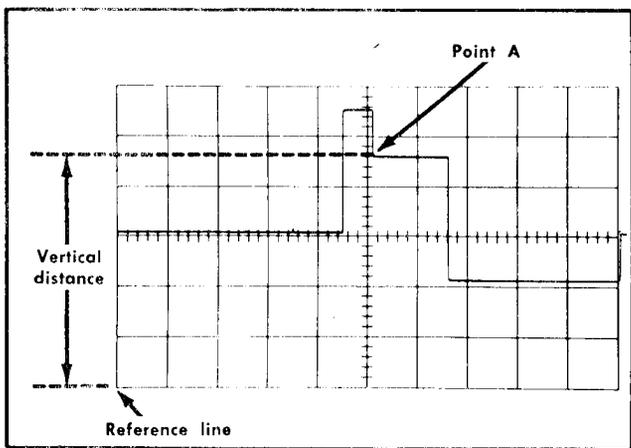

Fig. 2-16. Measuring instantaneous DC voltage with respect to a reference.
9. Measure the distance in divisions between the reference line and the point on the waveform at which the DC level is to be measured. For example, in Fig. 2-16 the measurement is made between the reference line and point A.
**Example.** Assume that the vertical distance measured is 4.6 divisions (see Fig. 2-16), the waveform is above the reference line, using a 10X attenuator probe and a VOLTS/DIV setting of 2.